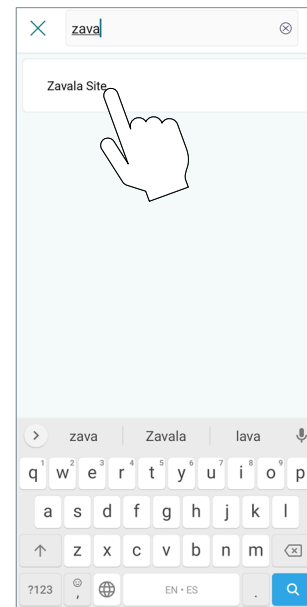

Figure 135. Choose Organization
4. “Choose organization” screen will be displayed and it will show all the available organizations. Navigate the sub Organization list or use the search tool to locate desired organization. See **Figure 135**.